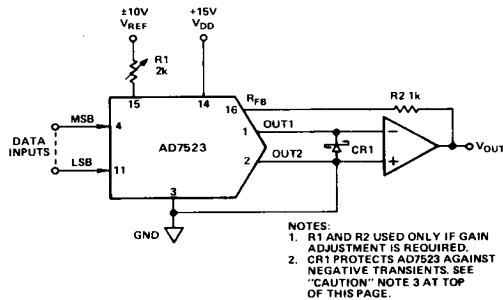

Figure 1. Unipolar Binary Operation (2-Quadrant Multiplication)
3. The inputs of some IC amplifiers (especially wide bandwidth types) present a low impedance to V^- during power-up or power-down sequencing. To prevent the AD7523 OUT1 or OUT2 terminals from exceeding $-300mV$ (which causes catastrophic substrate current) a Schottky diode (HP5082-2811 or equivalent) is recommended. The diode should be connected between OUT1 (OUT2) and ground as shown in Figure 1 and 2. Protection diodes are not required when using TRI-FET amplifiers such as the AD542 or AD544.